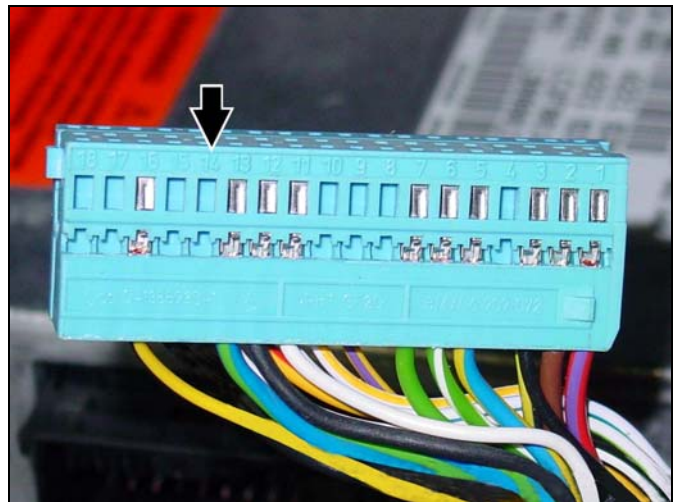

Figure 29
2. Remove the locking cover from the Tele Aid power supply connector to expose the pin housing (Figure 29).
3. If pin slot #14 is vacant (Arrow, Figure 29), proceed to step 6.